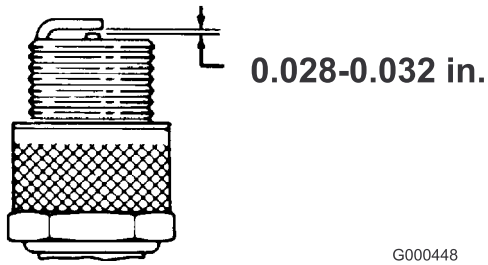

Figure 21
- Set the air gap at 0.028 to 0.032 inch (0.05 to 0.07 cm) (Figure 21).